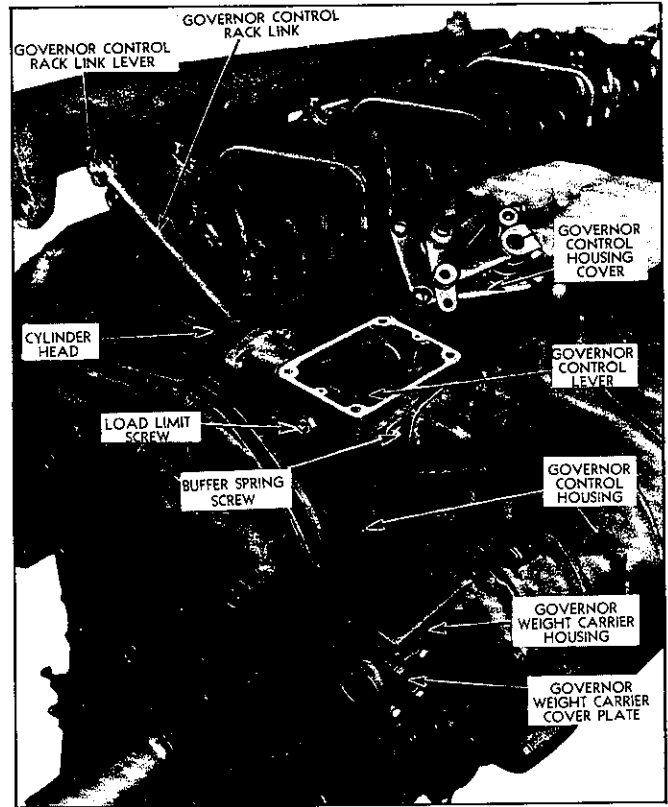

Fig. 6—Mechanical Governor Mounting.
10. Remove four cap screws from governor control housing cover, and remove cover and gasket. (See Fig. 6.)